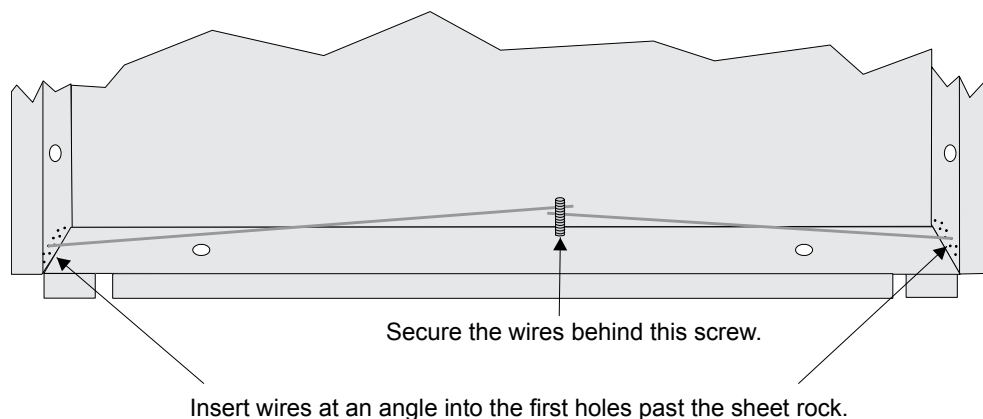

Figure 4.22 Flush Mounting the Backbox
3. Fit the annunciator backbox into the hole and stabilize with mounting wires. Angle the mounting wires into the first hole past the sheet rock. Secure the wires behind the screws as shown in Figure 4.22. When all four wires are in place, the backbox should fit snugly into the hole in the sheet rock.